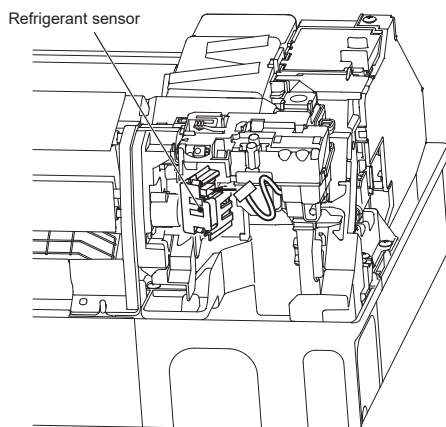

Fig. 2
Installation procedure (Fig. 2)
- 3) Connect the lead wire to refrigerant sensor. (Fig. 2)